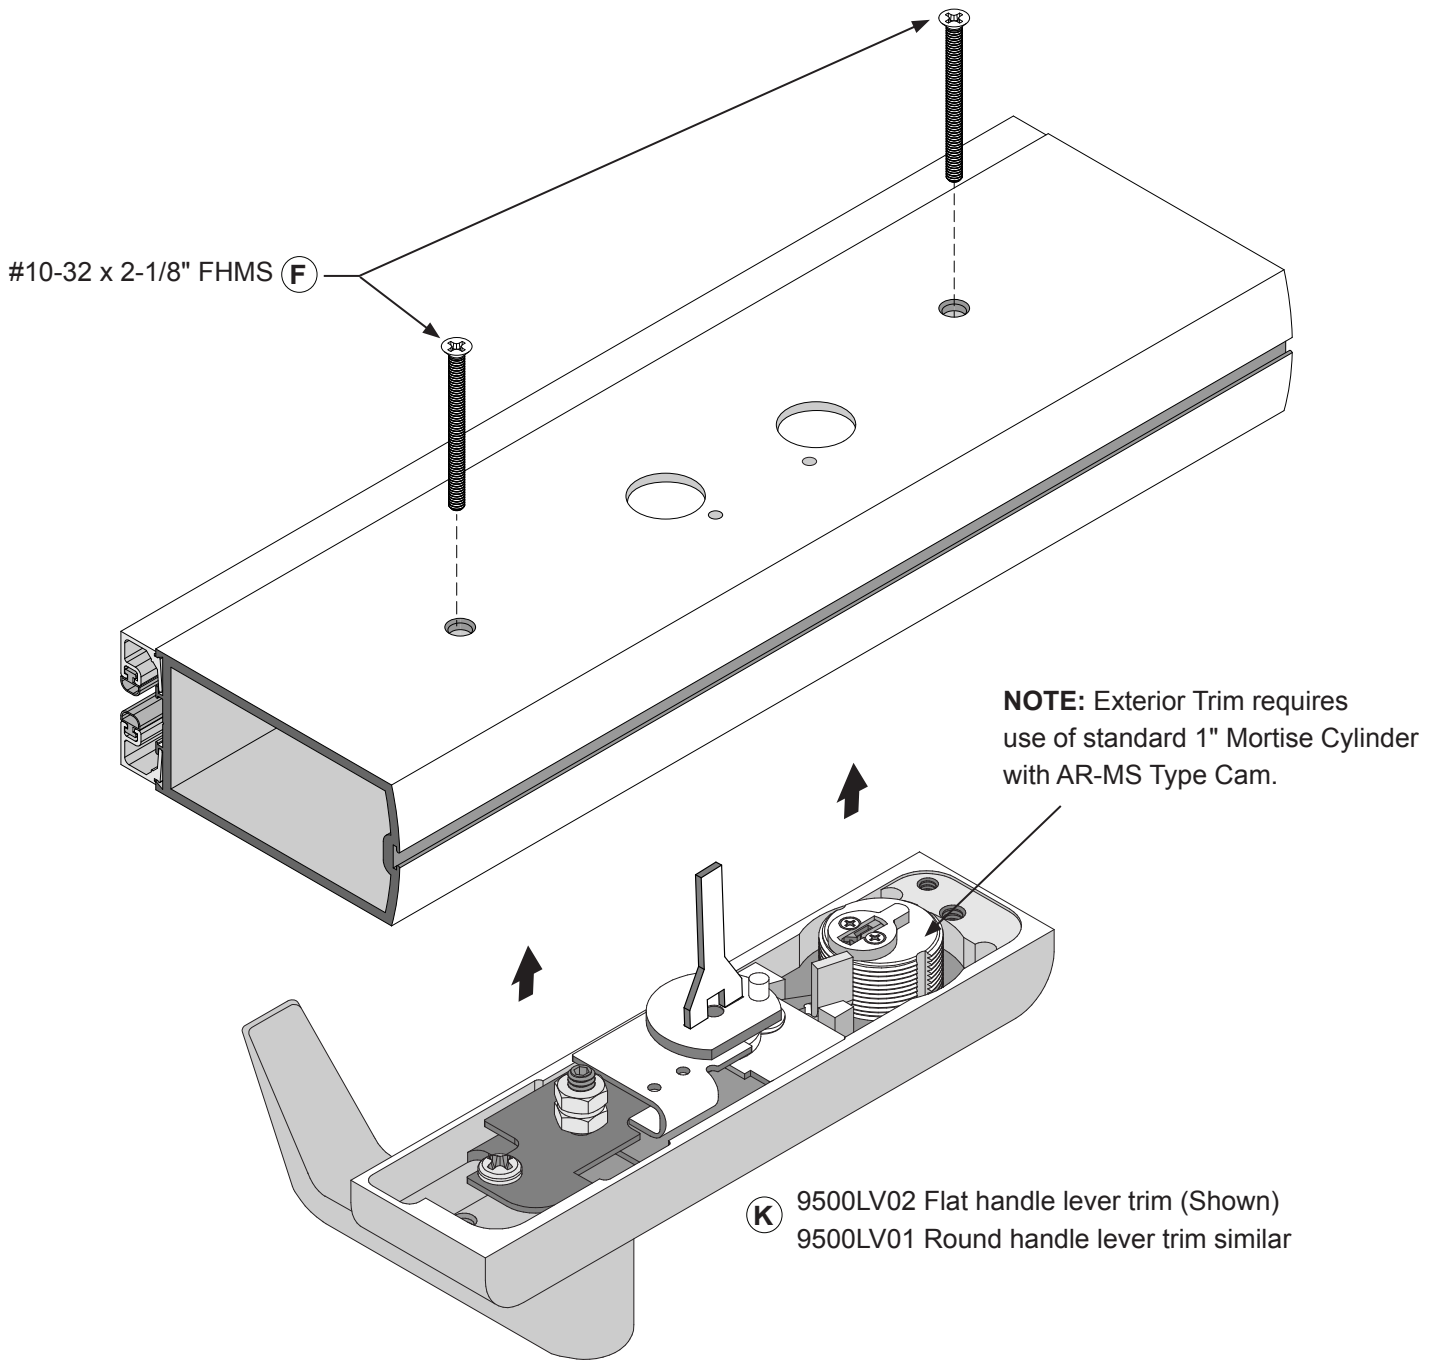

FIG. 10
1. Attach the exterior trim with (F) (2) #10 x 2-1/8" Flat head screws provided shown in Fig. 10.